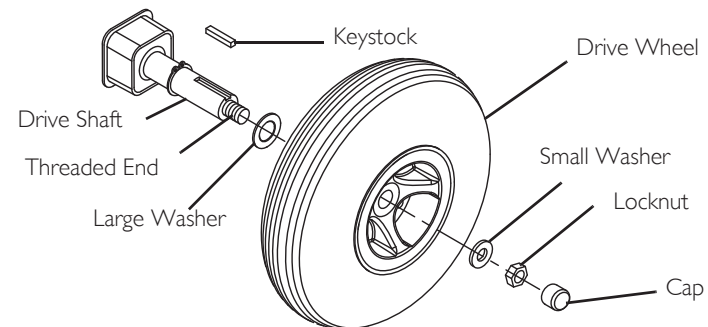

FIGURE 9.1 Removing/Installing the Drive Wheels
For this procedure, refer to FIGURE 9.1 on page 42.
1. Place keystone in cutout on drive shaft as shown in FIGURE 9.1.